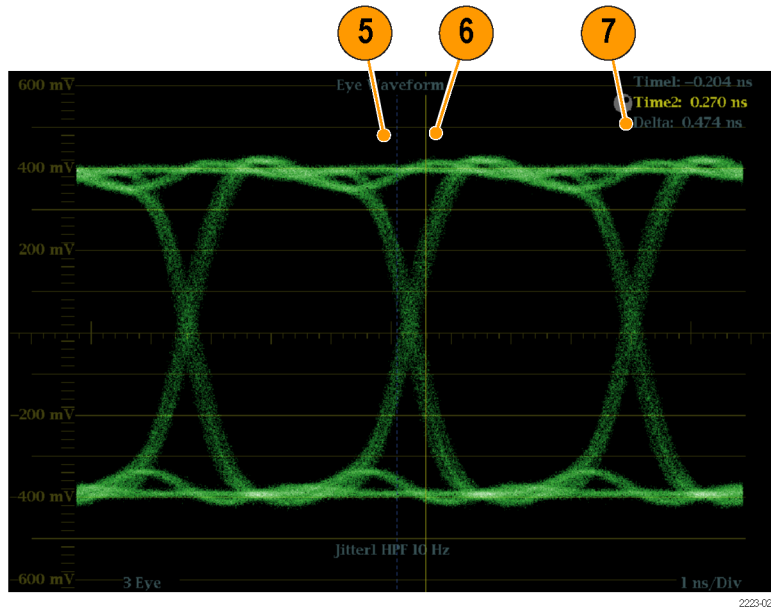

Figure 67: Measuring rise time using variable gain in Eye pattern
5. Position the first timing cursor at the crossing of the rising edge of the Eye waveform and the graticule line two divisions above the bottom of the waveform. (See Figure 67.)
6. Position the second time cursor at the crossing of the rising edge of the Eye waveform and the graticule line two divisions below the top of the waveform. (See Figure 67.)
7. Note the 20 – 80% rise time measurement displayed in the Delta time readout. (See Figure 67.)